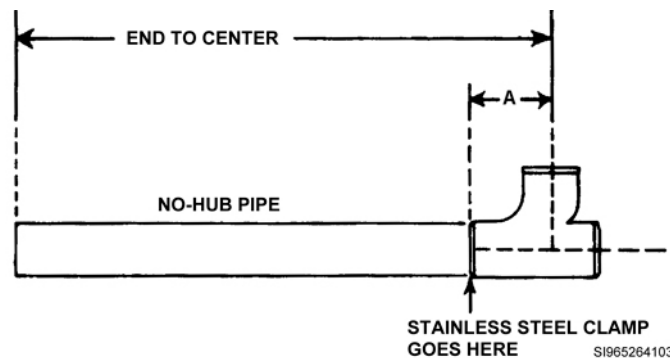
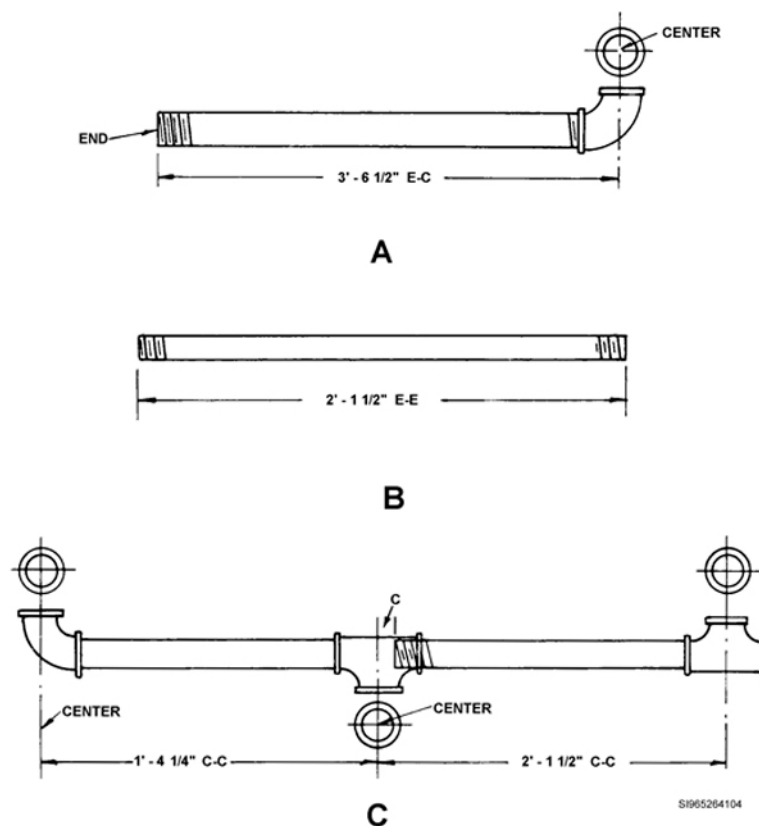
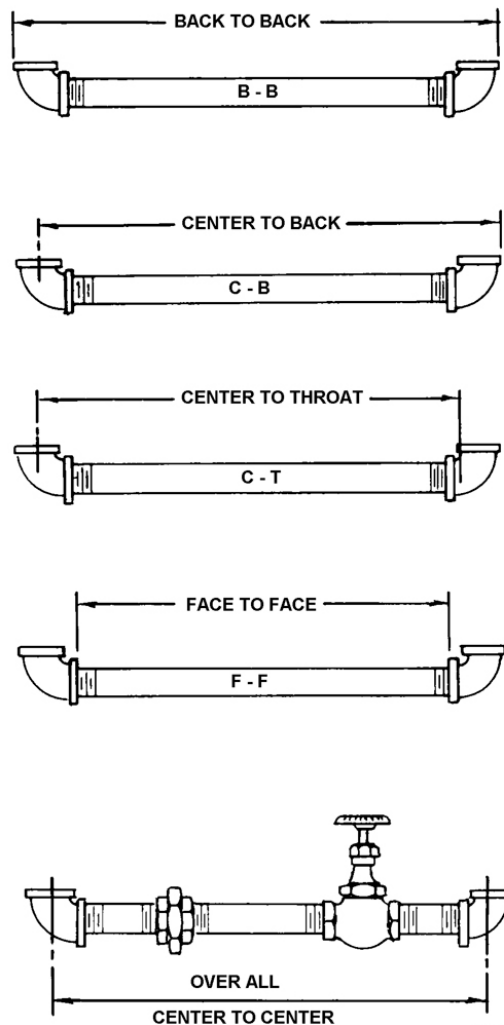

Figure 1-32. End-to-center measurement.
Figure 1-33. Three types of measurements.
Figure 1-34. Additional types of measurements.
Rather than using a center-to-center measurement as you did for the bell and spigot joint and the plastic socket joints, use another method of measuring called end-to-center. This means measuring from the end of a pipe to the center of the fitting (fig. 1-32). From the total measurement, deduct the measurement from the center of the fitting to the end (measurement A). This gives you the end-to-end measurement of your pipe. For end-to-center measurements on other types of joints, the procedure is similar. The only difference is that you deduct for the socket or hub into which the pipe will be inserted.
There are several different methods of measuring steel pipe. Among these are: (1) end-to-center, (2) end-to-end, and (3) center-to-center. An end-to-center measurement is taken from the center of an elbow or tee screwed on one end to the opposite end of the pipe, shown in figure 1-32, drawing A. An end-to-center measurement is made by first tightening an elbow on the threaded end of a pipe. Place the end of your rule exactly in the center of the fitting, measure along the pipe, and mark at the proper length. The end-to-end measurement is the measurement of the pipe without any fittings, as shown in figure 1-33, B. A center-to-center measurement is shown in figure 1-33, C. To make a center-to-center measurement complete the following steps:
1. Put a fitting on the end of the pipe, as shown in figure 1-32, A.
3. Now place the center of the tee on the mark and make a new mark allowing for the pipe screwed into the tee, which is allowance "C" in figure 1-33, C.
Since repair makes up the majority of pipe work in fuel systems, the end-to-end and face-to-face measurements shown in figure 1-33, B and figure 1-34 are used most often. The end-to-end method is used when an old pipe is removed and a new pipe is made to replace it. You simply measure the old pipe from end-to-end. This is the easiest method. If you know the length of pipe needed, all you need to do is cut the pipe that length and thread both ends. The face-to-face method is used to measure pipe while it is still connected in the system. You measure from the face of one fitting to the face of the next fitting. With the face-to-face method, you are not told the overall length. You therefore have to find out how much pipe extends into the fitting. The threaded end screwed into the fitting is called the *thread engagement*.
Less commonly methods of taking pipe measurements are: (1) back to back, (2) center to back, (3) center to throat, and (4) overall center to center (fig. 1-34). No matter which method you use, do not forget to allow for the fittings.